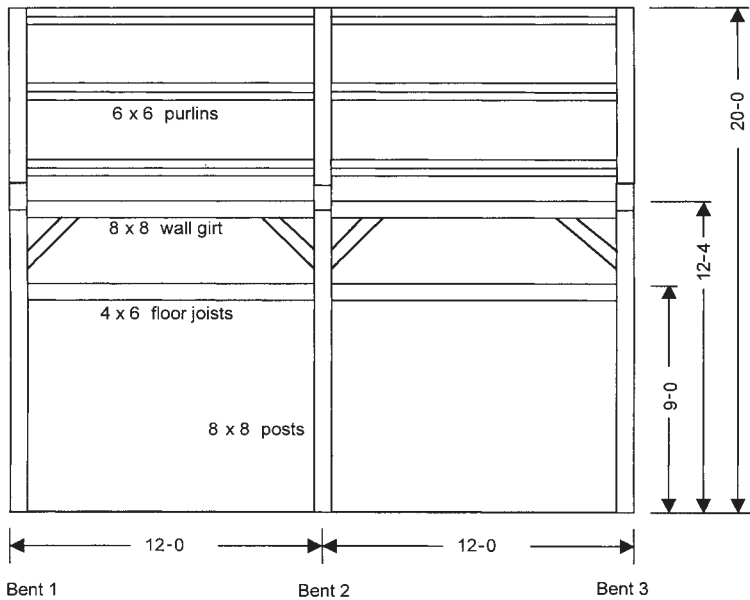

FIG. 3. ELEVATION OF A THREE-BENT MODEL FRAME.
DEVELOPING A RAISING SCRIPT. The easiest way to avoid confusion and errors during a raising is to think through the whole process beforehand. This procedure is important enough that it warrants writing a formal raising script. The people leading the raising should sit down with a set of frame plans, talk through the necessary steps and record them. The idea is to have all the necessary equipment at hand for each step of the raising. That way, no one is frantically searching for something as the crew tries to stabilize the piece of the frame that has just been raised. The general raising sequence for our three-bent frame (Fig. 3), which has drop-in purlins and joists, would be to set the gin pole, raise bent one, add wall girts between bents one and two, raise bent two, add wall girts between bents two and three, then raise bent three; finally, with the bents connected, drop in the purlins and drop in the joists. Following is the model raising script.
2. The wall girts and outer floor joists between bents one and two are fitted in preparation for raising Bent 2 (see Fig. 3)